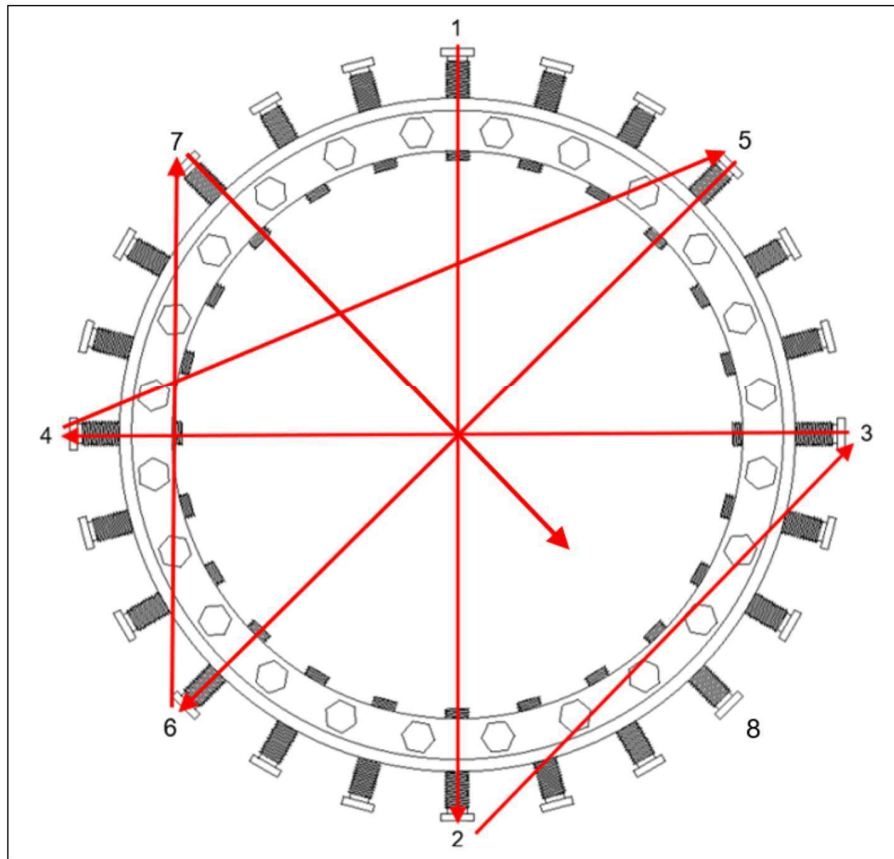
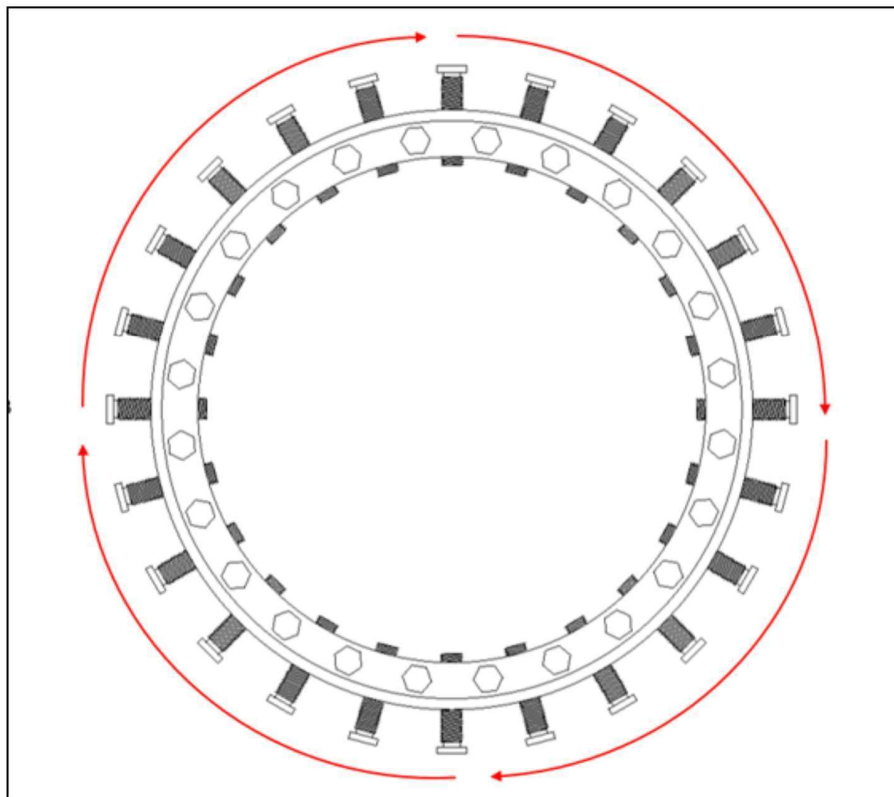

Figure 5
Figure 6
6. Clamp screws must be tightened evenly while maintaining an equal space between the pipe and the fitting. Tighten the clamp screws one at a time in a repeated sequence that matches Figure 5. The first time through the sequence, tighten the screws to 25% of the torque. The second time through, tighten the screws to 50% torque. The third time through, tighten the screws at 100% torque. Then, follow a circular tightening sequence that matches Figure 6, at 100% torque, until the Clamp Screws are unable to continue spinning.